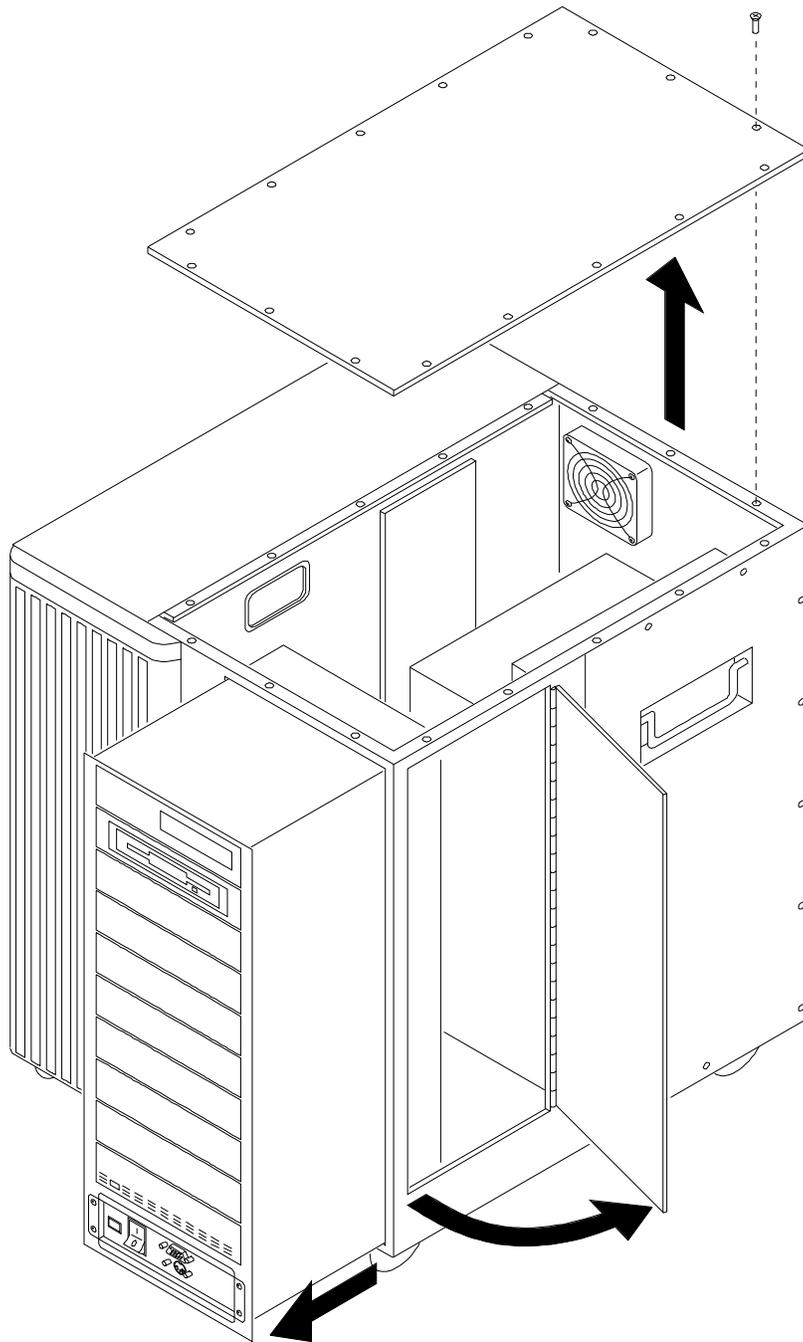

Figure 4-8. Accessing the Peripheral Bay
5. Open the door (Figure 4-8).
6. Remove the 17 screws around the perimeter of the cover on top of the peripheral bay (Figure 4-8).
7. Remove the cover (Figure 4-8).
8. Grasp the peripheral bay steel framework and carefully pull the peripheral bay out (Figure 4-8).